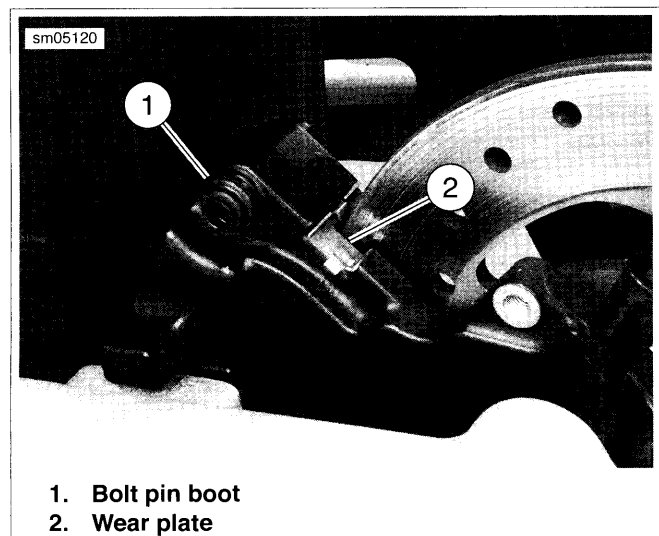
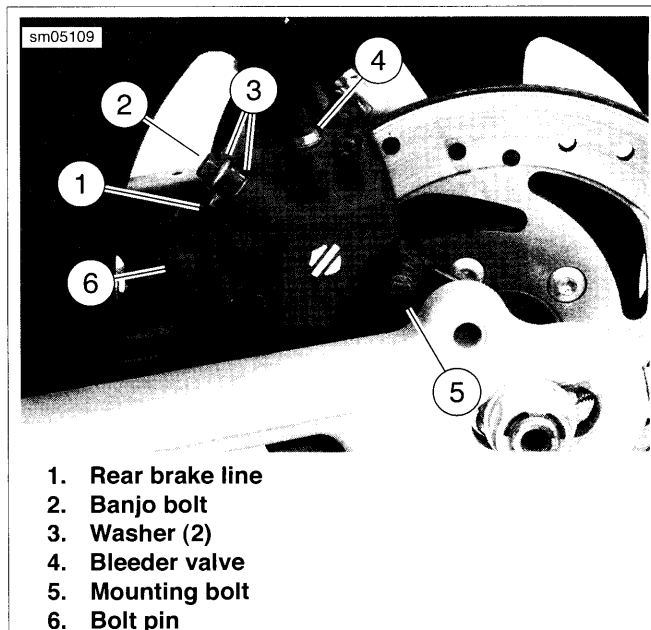

Figure 2-117. Caliper Mount
Figure 2-118. Rear Caliper Assembly
1. See Figure 2-117. If removed, install bolt pin boot (1).
3. If removed, install wear plate (2) on mounting bracket.
4. See Figure 2-118. Apply a drop of LOCTITE 272 Thread Lock to threads of bolt pin (6).
6. See Figure 2-118. Install mounting bolt (5) and tighten to 14-18 ft-lbs (19.6-24.5 Nm).